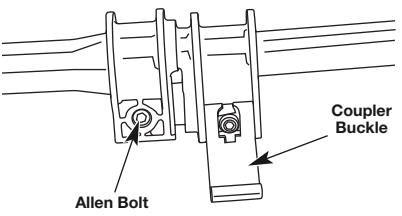

Fig. 4
4. Using a 4mm Allen Wrench tighten the upper Allen bolt until the coupler is secure and will not move on the upper boom. (Fig. 4).